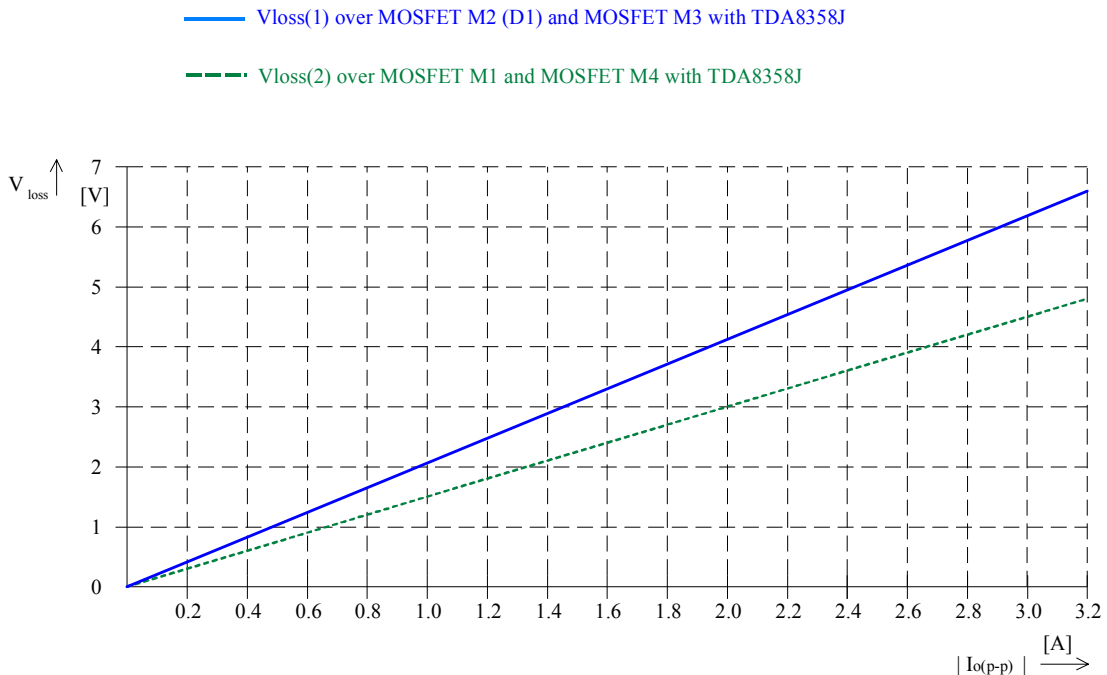

fig 33: Voltage loss of the output stage.
The value of the internal voltage losses given by the output transistors can be found in the next graph (see fig 33). $V_{\text{loss}(1)}$ gives the voltage loss for the first part of the scan time. So $V_{\text{loss}(1)}$ is the sum of the voltage losses of MOSFET M2, diode D1 and MOSFET M3. $V_{\text{loss}(2)}$ gives the voltage loss for the second part of the scan time. . So $V_{\text{loss}(2)}$ is the sum of the voltage losses of MOSFET M1, MOSFET M4. See fig 12.
- $V_{loss(1,2)}$; see fig 33
$$\begin{aligned} I_{o(p-p)} &= 2.4 \text{ A} \\ R_{\text{coil}} &= 6 \Omega * 1.2 = 7.2 \Omega \\ R_M &= 0.87 \Omega \\ L_{\text{coil}} &= 5 \text{ mH} \\ f_{\text{vert(max)}} &= 50 \text{ Hz} \\ V_{\text{loss(1)}} &= 4.9 \text{ V (see fig 33)} \\ V_{\text{loss(2)}} &= 3.6 \text{ V (see fig 33)} \end{aligned}$$